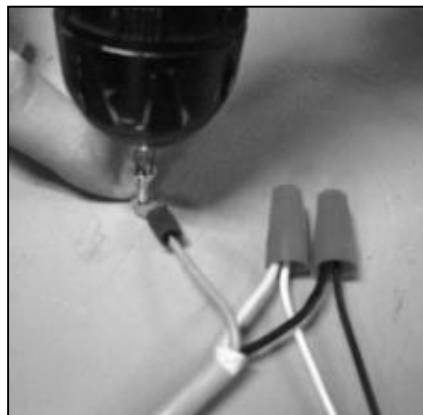

Figure 13
5.7 Finish power supply AC connection by connecting black VAC line to black input cord of power supply, and white neutral to white input cord of power supply. Connect green ground wire from line to the same metal surface the power supply is mounted on (see figure 13)